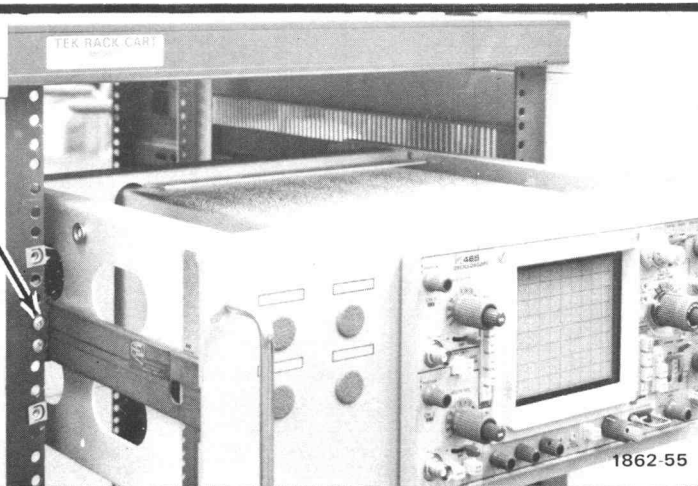

Fig. 4-15. Alignment adjustments for correct operation.
11. Adjust the alignment of the stationary sections according to the procedure outlined in Fig. 4-15. (If the rear alignment is changed, recheck the rear support pins for correct alignment.)